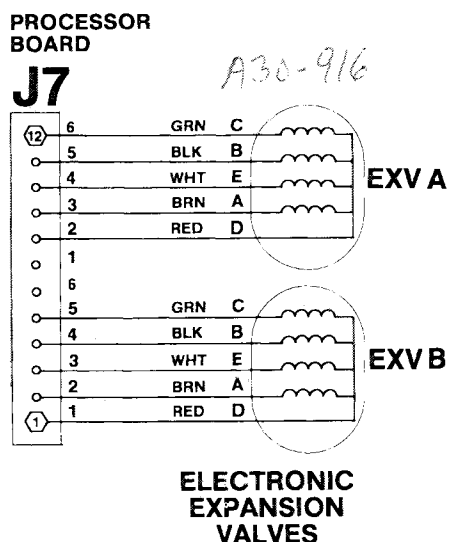

Fig. 35 — Processor Board Connections
2. Connect positive test lead of meter to terminal 8 on connector J7 (see Fig. 35).
Step 2 — Check EXV Wiring — Check wiring to electronic expansion valves from J7 terminal strip on processor board (see Fig. 35).